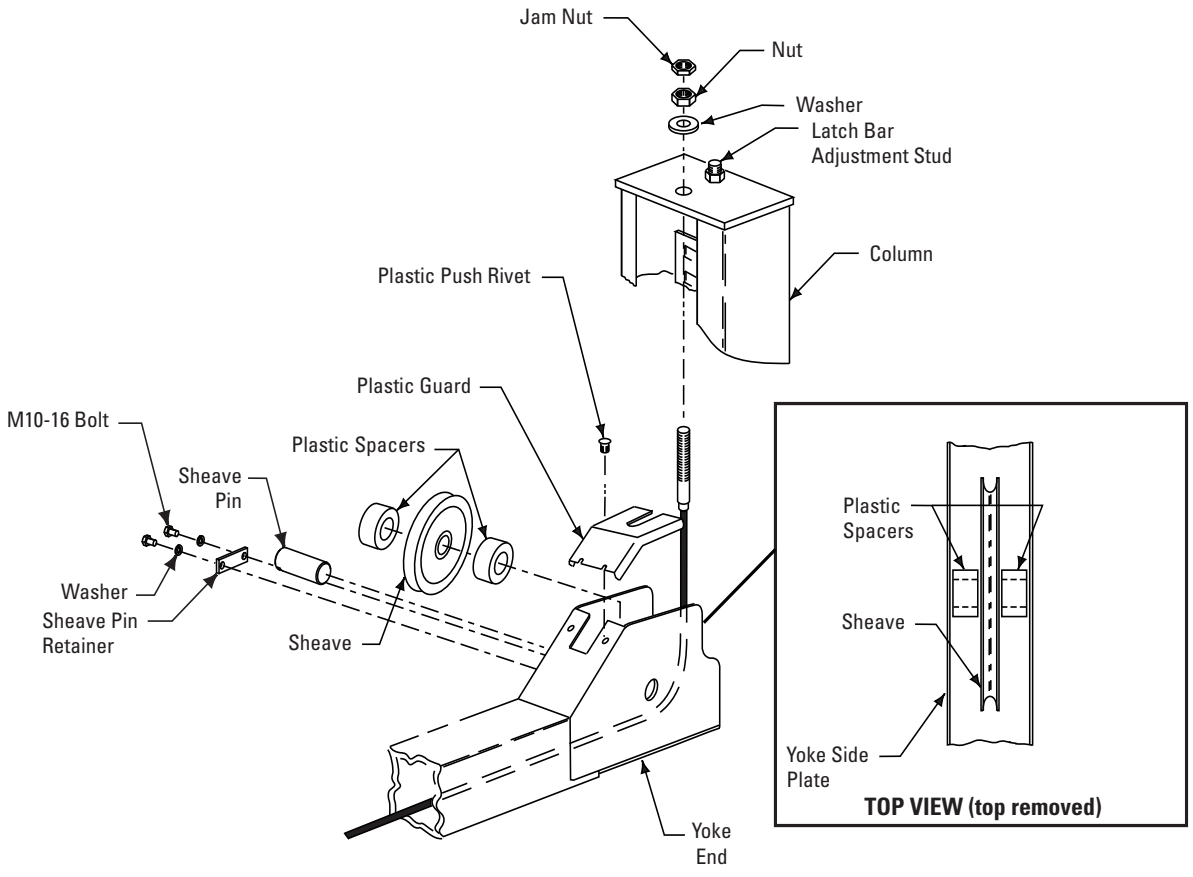

Fig. 8
- B. Retain sheave pin with (2) M10-16 bolts and sheave pin retainer. Attach each cable to column top plate with spacer, nut, and jam nut, Fig. 8. Install plastic sheave guard on each yoke end, Fig. 8. Roping diagram shows a view of completed roping, Fig. 9.
- F. Install yoke end sheaves and plastic spacers, Fig. 8. A plastic spacer is placed on each side of the sheave, inset Fig. 8.
Adjust cable with lift fully lowered. Loosen jam nut and tighten nut on cable stud on top of column until yoke end raises 1/4". Back off nut one turn. Retighten jam nut. Repeat for all four cables. Refer to Fig. 8.